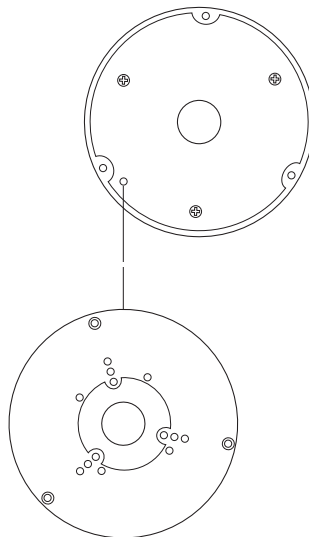

Fig. 4
5. Remove the lid from the junction box and use the included hardware. Insert the included wall anchors into the holes. Use a Phillips head screwdriver and screws to mount the junction box (Fig. 4).